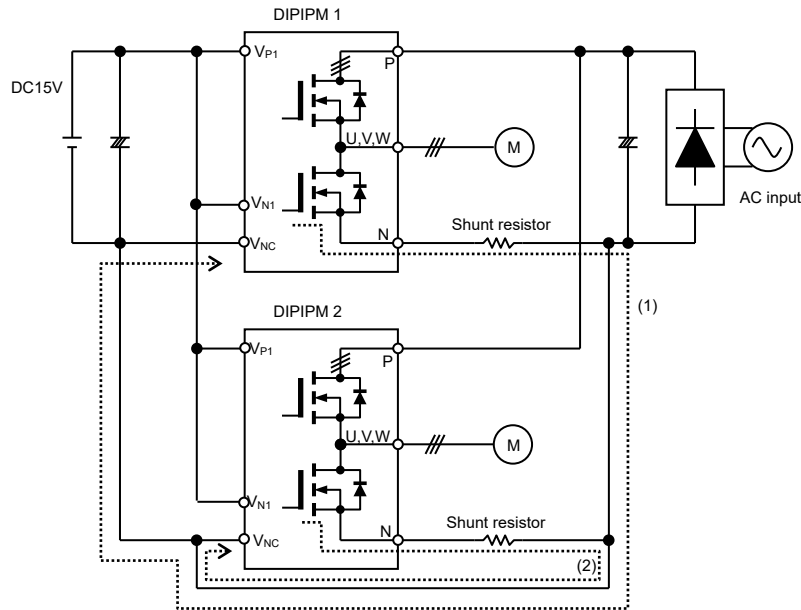

Fig.3-1-13 Parallel operation
Fig.3-1-13 shows the circuitry of parallel connection of two DIIPMs. Route (1) and (2) indicate the gate charging path of low-side MOSFET in DIIPM No.1 & 2 respectively. In the case of DIIPM 1, the parasitic inductance becomes large by long wiring and it might have a negative effect on DIIPM's switching operation. (Chare operation of bootstrap capacitor for high-side might be affected too.) Also, such a wiring makes DIIPM be affected by noise easily, then it might lead to malfunction. If more DIIPMs are connected in parallel, GND pattern becomes longer and the influence to other circuit (protection circuit etc.) by the fluctuation of GND potential is conceivable, therefore parallel connection is not recommended.